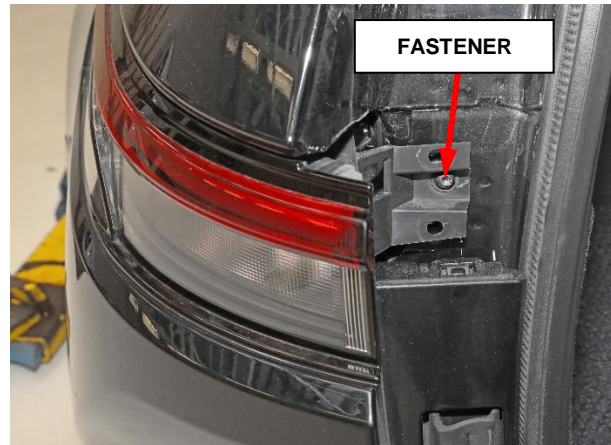

Figure 7 – Taillamp Fastener
2. Remove the taillamp fastener then remove the lamp (Figure 7).
- Align the taillamp to the grommets and push the taillamp assembly into the body opening, install the screw and tighten securely (Figure 7).